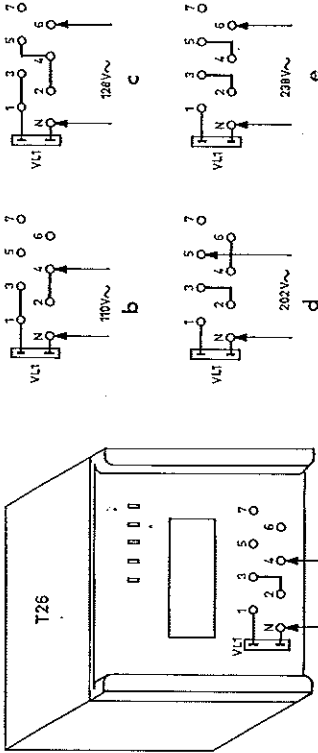

Fig. 1
- Mains : At delivery the stabilizer is adjusted to 220 V. In order to adjust the instrument to 110 - 128 - 202 or 238 V by interchanging the connections on the transformer (see Fig. 1, c, d, e and f.). For this remove the lower half of the casing after loosening both screws in the bottom.